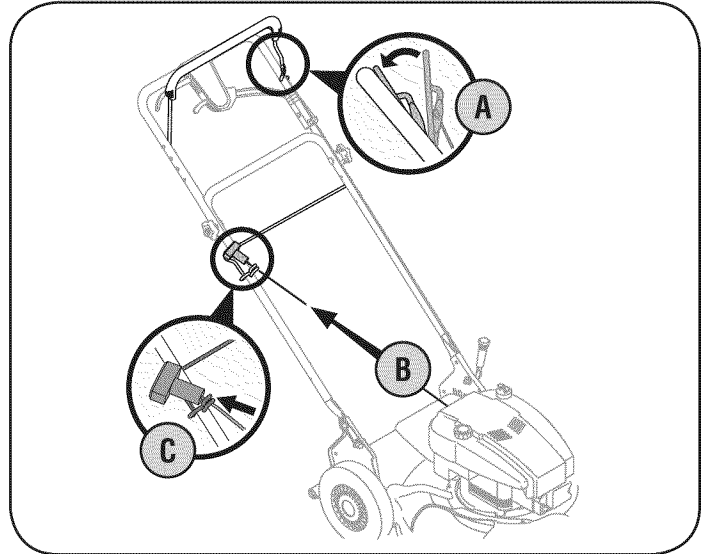

Figure 3
3. The rope guide, which is connected to the support rod, is located on the right side of the lower handle. See Figure 3.